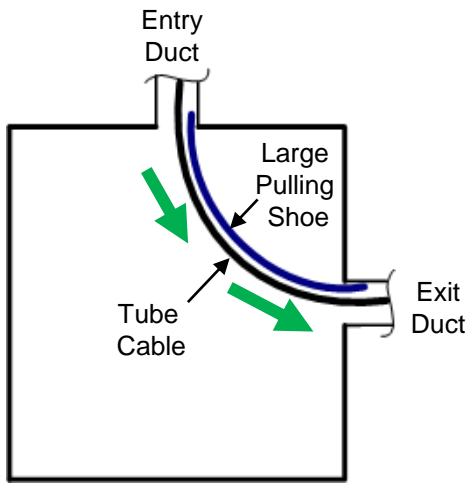
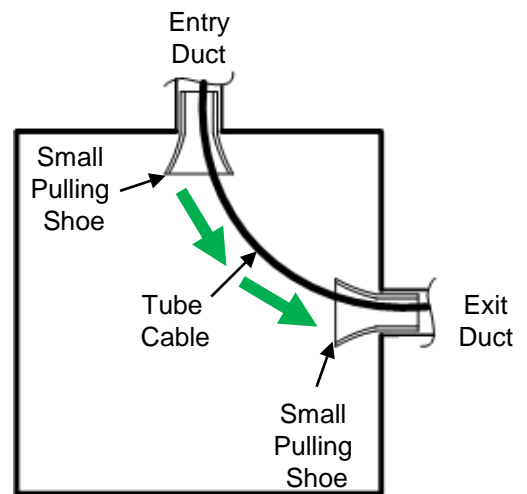

Figure 20
Figure 21
17.1.4 If available, use Large or Small Pulling Shoes to help tube cable negotiate turns and exposed bends. Ensure minimum bend radius requirement of 20X tube cable OD is maintained with respect to the size / radius of Large Pulling Shoe or placement of Small Pulling Shoes. **See Fig. 20 and Fig. 21.**
17.2.6 If available, use Large or Small Pulling Shoes to help tube cable negotiate turns and exposed bends. Ensure minimum bend radius requirement of 20X tube cable OD is maintained with respect to the size / radius of Large Pulling Shoe or placement of Small Pulling Shoes. **Refer to Fig. 20 and Fig. 21.**